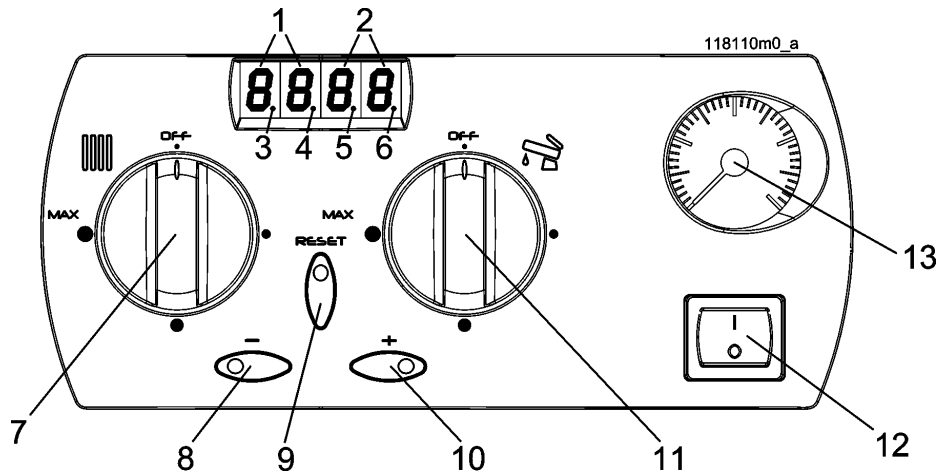

Figure 40 - Instrument panel
If the pressure inside the heating circuit falls below 7psi (0,5 bar), the appliance switches off and the display "1" as per figure 40, shows **FILL** to indicate that it is necessary to restore the correct pressure. Proceed as follows:
2. check the pressure on the pressure gauge "13" of figure 40, it must reach a pressure of 20 psi (1,5 bar) and the indication **FILL** must disappear;
The boiler is pre-set with standard parameters. However, it is possible to make a number of changes or consult the parameters by means of using the "Users' Menu" (see section 12.16). During functioning display "1" of figure "40" displays the status of the boiler and display "2" (see figure 40) shows the value of the parameter. The various operating statuses are shown in section 12.18.
Within the "Users' Menu" (see section 12.16) it is possible to check the last lock-out or error which have occurred. In addition to the operating modes, the instrument panel provides important information on the current functioning of the boiler, via the indicators "3", "4", "5" and "6" of figure 40. In particular:
During normal operations, the parameters' display "1" and the values' display "2" (see figure 40) remain permanently on, if the "Energy Saving" mode has not been activated (See section 12.15).
6. turn knob "7" of figure 40 until it reaches the heating temperature desired. Turn knob "11" of figure 40 until it reaches the domestic water temperature desired.
To disable the heating functions for a prolonged period, leaving only the domestic hot water function, switch OFF the heating temperature, until the wording OFF appears, by turning knob "7" of figure 40 to the minimum.
In Winter mode, by means of the pump, the boiler sends the water to the system at the temperature set using knob "7" of figure 40.
Simultaneously, the pump which sends the water to the system is switched on and off by the room thermostat. This can be noted, because indicator "6" of figure 40 switches on and off in correspondence with the on and off of the pump.
The domestic hot water temperature is adjusted by turning knob "11" shown in figure 40. When the knob is turned, the display, item "1" in figure 40, shows a flashing **d** and the temperature being selected. The range within which the domestic hot water can be set is 104°F (40°C) to 140°F (60°C) or from 104°F (40°C) to 158°F (70°C) when an indirect storage tank is used.
The boiler provides hot water to the heating system at the temperature set by adjusting knob "7" as shown in figure 40. The room thermostat turns the boiler's circulator pump on in order to satisfy the heat demand of the rooms controlled by the thermostat. To maximize the boilers' performance, temperature knob "7" should be set at a value that is just sufficient to maintain the desired temperature of the rooms. As the weather gets colder, progressively increase the water temperature by adjusting knob "33" When the weather gets milder turn the water temperature down. This extremely simple method is suitable for the following types of systems:
- D - knob "37" in figure 40 can be used to make the small line shifts, "b", shown in figures 41 and 42. These shifts will change the supply water temperature up to 18°F (10°C).
Once selected, reset adjustment is completely automatic and will switch off at the end of the heating season and switch back on at the beginning of the heating season. When the "Calculated temperature" is lower than the "Minimum heating temperature", parameter **0b**, the heating service switches off. When the "Calculated temperature" exceeds the "Minimum heating temperature", parameter **0b**, the heating service switches back on. If for some reason the heating service doesn't match the load, use knob "7" in figure 40, to raise or lower the calculated temperature and match the "Minimum heating temperature" on an advanced or delayed basis.
b = parallel shift of the line (adjusted by the heating knob, item "7" of figure 40)